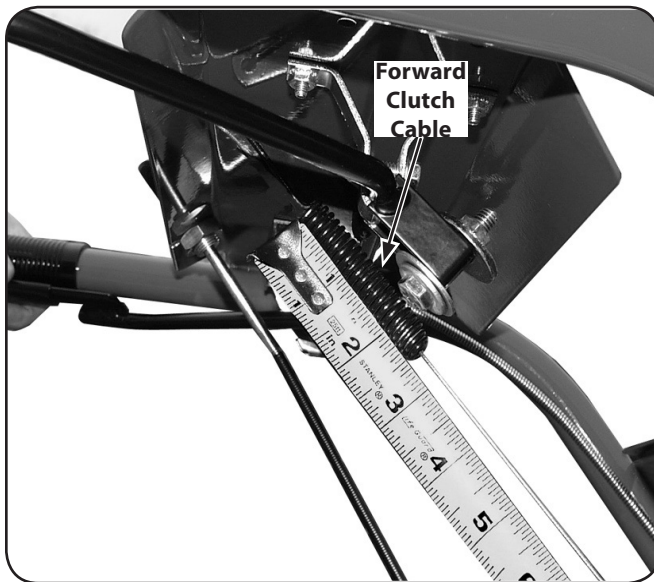

Figure 6-5
2. The coiled part of the forward clutch spring measures 2" in length when the Forward Clutch Control levers are not pulled up. Pull the Forward Clutch Control Lever up against the handlebar and measure the length of the coil on the forward clutch spring. Tension is correct if the length of the extended coil is 2-½". The forward clutch control cable needs adjustment if the extended length of the coil is not 2-½". See Fig. 6-5.